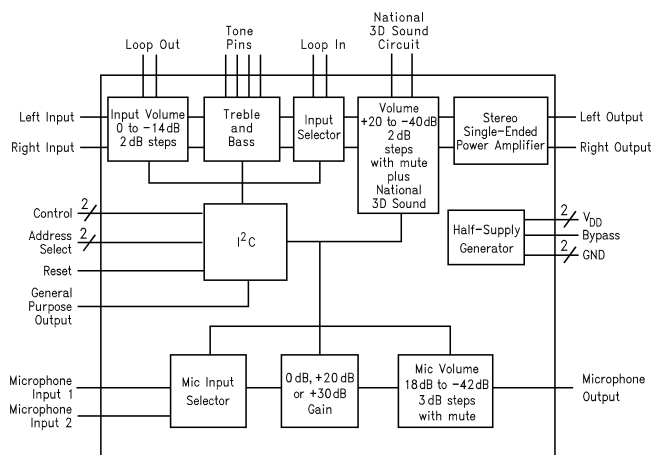

Figure 1. LM4832 Block Diagram
(1) All voltages are measured with respect to the ground pins, unless otherwise specified. All specifications are tested using the typical applications shown in Figure 1.
(2) Typicals are measured at  $25^\circ C$  and represent the parametric norm.
(3) Limits are ensured AOQL (Average Outgoing Quality Level).
(4) Data sheet min and max specification limits by design, test, or statistical analysis.